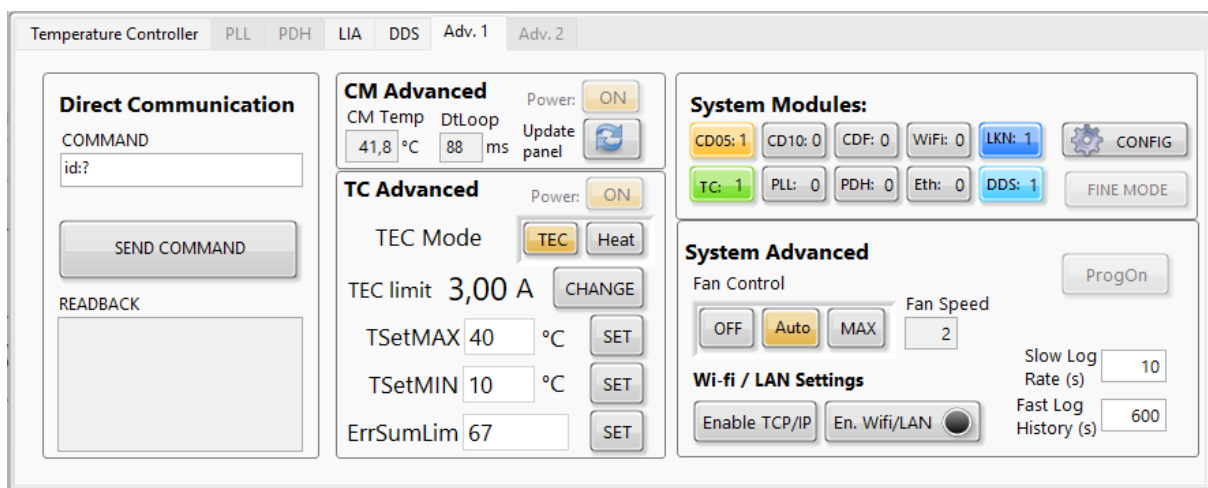

Figure 13: The QubeCL_control Software Advanced tab
- In the TC Advanced section of the Advanced tab(**Figure 13**), that can be found in the lower panel, use the **TEC limit** control to set the **maximum current** that the TC controller may source to the Peltier stage. To do so, you must press the correspondent **CHANGE** button.